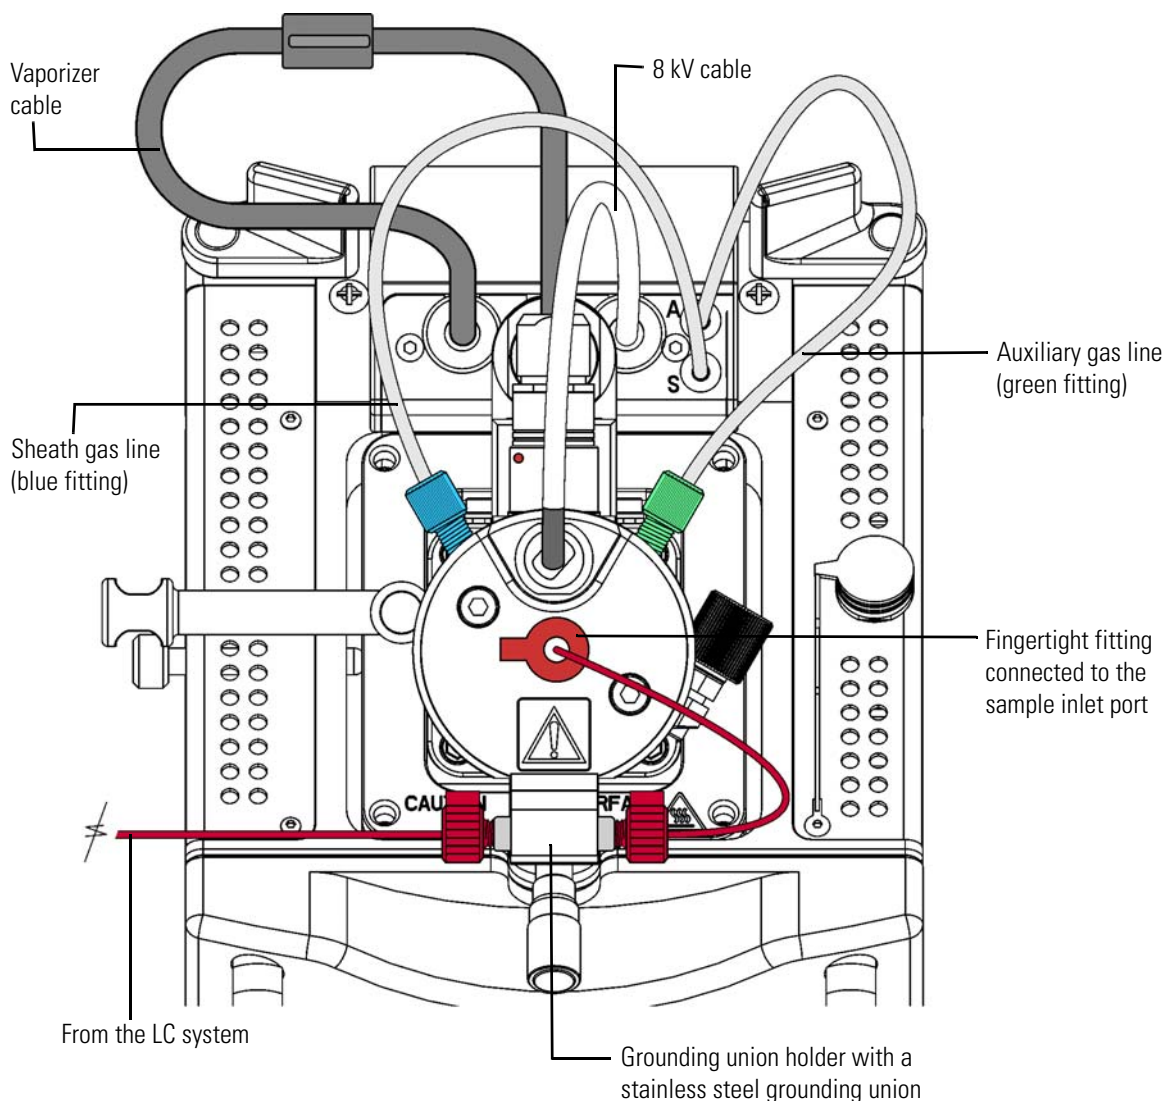

Figure 8-23. HESI-II probe installed in the Ion Max API source housing
Figure 8-23 shows the HESI-II probe installed in the Ion Max API source.
2. Unscrew the fingertight fitting from the sample inlet port (see Figure 8-23 on page 8-38).